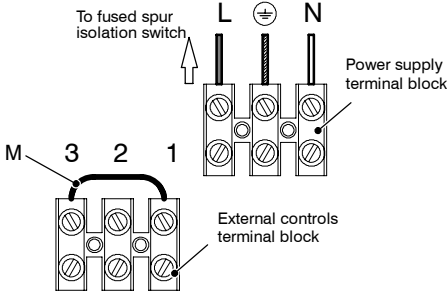

Fig. 6.16
- 6 Connect the electrical supply flexible cord coming from the fused spur isolation switch to the power supply terminal block of the boiler (Fig. 6.16) keeping the same connections for the live (brown wire) and the neutral (blue wire). External 3 A fuse or fused plug with same current rating is recommended.
When connecting any type of external control, the link M in Fig. 6.16 must be removed.